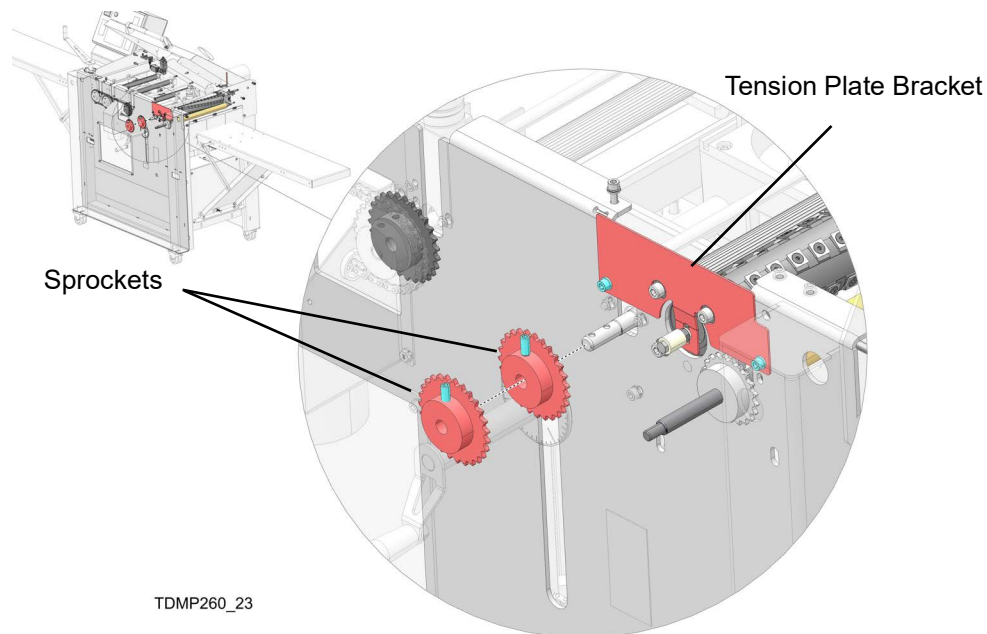

**FIG. 19**
1. Use box wrenches to fasten (2) nuts, (2) flat washers, and (2) bolts front slide block assembly to machine. See FIG. 19.